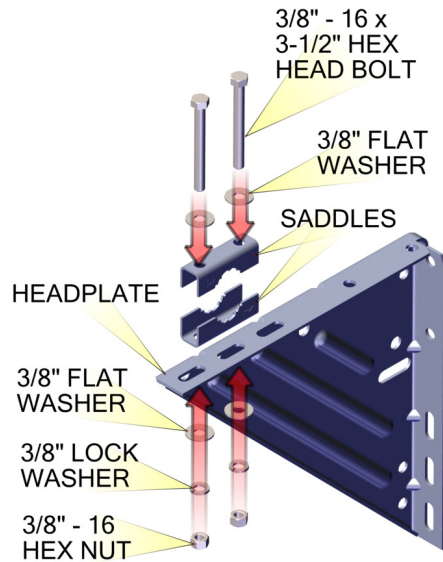
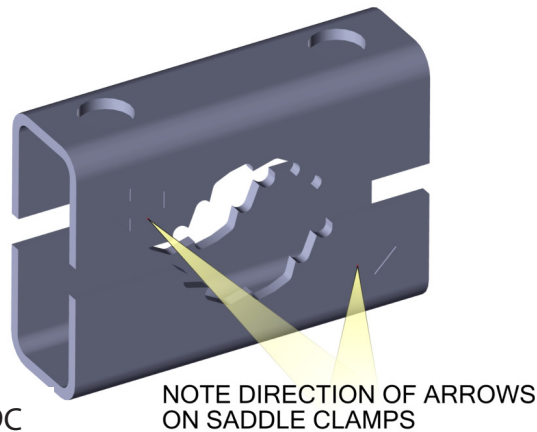

FIG 9B
FIG 9C
- Install saddle clamps at both ends of door shaft as shown in Figure 9B and Figure 9C. Ensure the bottom saddle clamps' arrows are pointing toward the mounting wall and the top saddle clamps arrows are pointing away from the mounting wall. With the bottom bar on the curtain hanging down, tighten the saddle clamps to headplates.